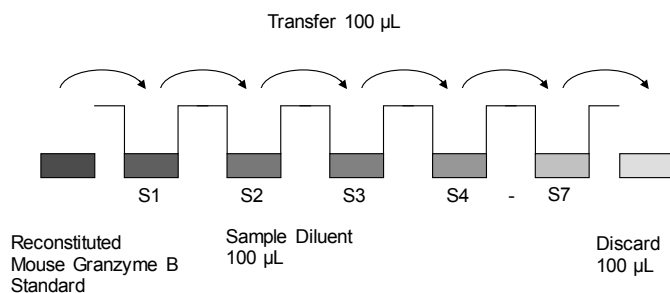

Fig. 7 Dilute standards - microwell plate
- Standard dilution on the microwell plate (Alternatively the standard dilution can be prepared in tubes – see “External standard dilution” on page 3): Add 100 µL of Sample Diluent in duplicate to all standard wells. Pipette 100 µL of prepared standard (see “Mouse granzyme B standard” on page 3, concentration = 1000 pg/mL), in duplicate, into well A1 and A2 (see Table 1). Mix the contents of wells A1 and A2 by repeated aspiration and ejection (concentration of standard 1 S1 = 500 pg/mL), and transfer 100 µL to wells B1 and B2, respectively (see Figure 7). Take care not to scratch the inner surface of the microwells. Continue this procedure 5 times, creating two rows of mouse Granzyme B standard dilutions, ranging from 500 pg/mL to 7.8 pg/mL. Discard 100 µL of the contents from the last microwells (G1, G2) used.